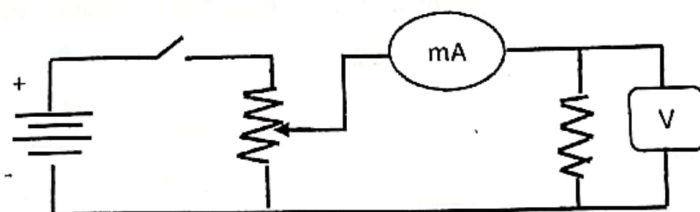

Figure 8.1: Circuit diagram
- Connect the circuit as shown in figure 8.1. DO NOT switch power on until circuit is checked.
- Theoretically, the resistance of the resistor can be found by using equation (1). Graphically, resistance can be found by taking the gradient of the graph.